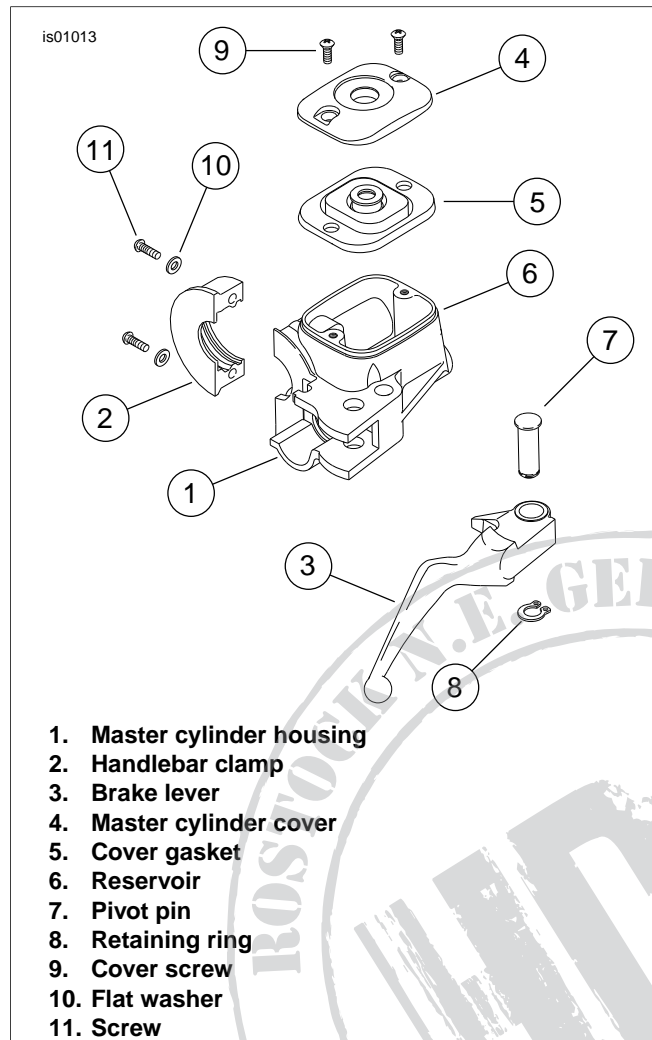

Figure 4. Brake Master Cylinder/Reservoir
1. See Figure 4. Align hole in brake hand lever (3) with hole in master cylinder housing (1). From the top of the assembly, slide pivot pin (7) through bracket and hand lever.
2. Install retaining ring (8) in pivot pin groove. Verify that retaining ring is completely seated in groove.
4. See Figure 4. Align the holes in the handlebar clamp (2) with those in the master cylinder housing and start the 2 screws (11) with flat washers (10). Position for rider comfort. Beginning with the top screw, tighten the screws to 70-80 in-lbs (7.9-9.0 Nm) using a T27 TORX® drive head.